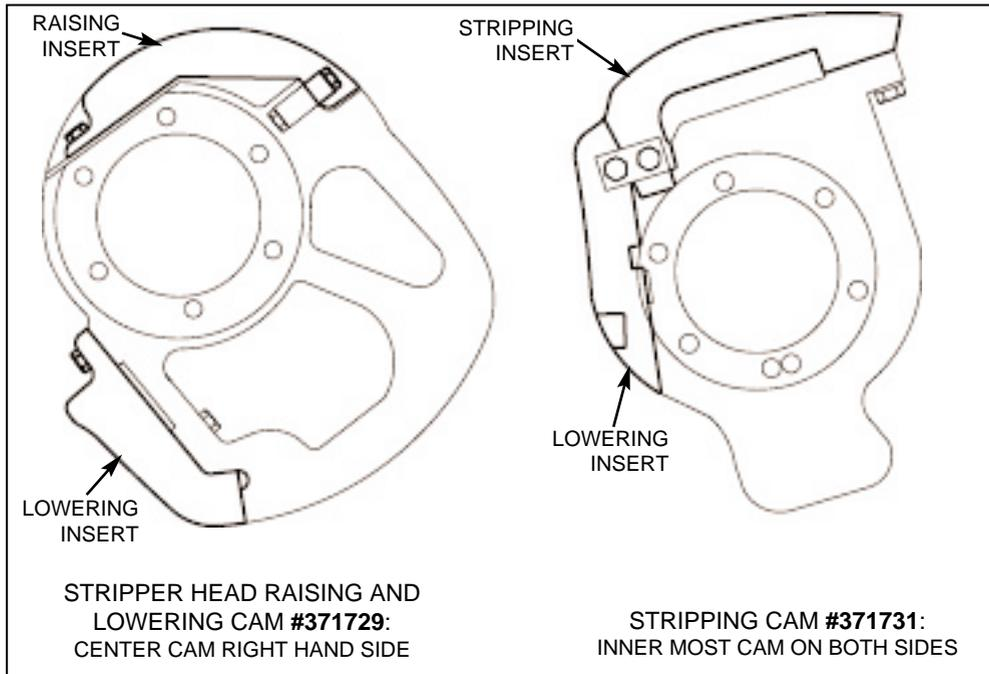

Figure 4.28 CAM INSERTS.
4.2.5 Install stripping cam insert # **371731** on each side of the machine and one stripper head raising cam insert # **371729** on the right side of the machine (see figure 4.28).